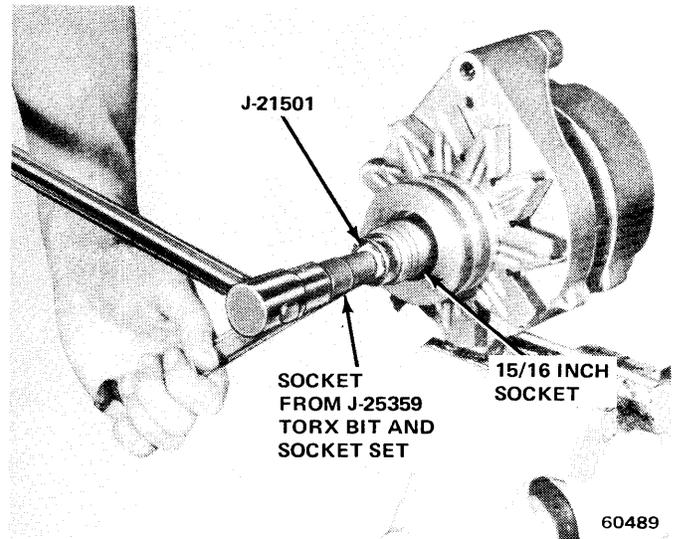
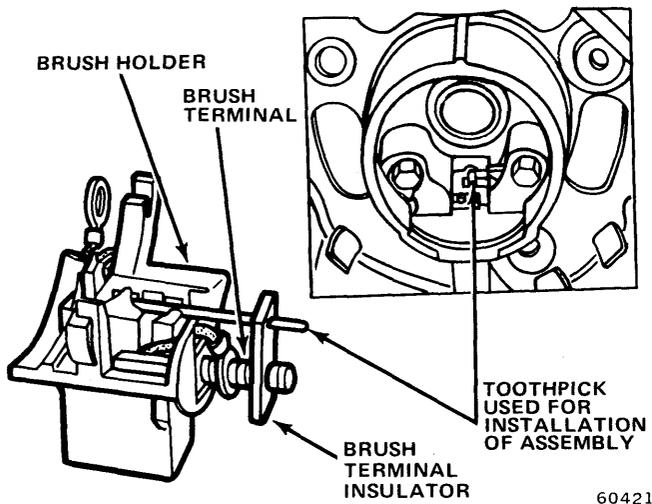

Fig. 3-19 Pulley Removal and Installation
Fig. 3-20 Brush Holder Assembly Installation
(10) Separate rectifier assembly from stator.
(11) Clamp front housing in vise and remove drive pulley nut using Tool J-21501 (fig. 3-19).
(12) Remove lockwasher, pulley, fan, fan spacer, front housing, and front bearing spacer from rotor shaft.
(13) Remove front end bearing retainer screws and remove retainer. If bearing is damaged or has lost its lubricant, support housing close to bearing boss and press out bearing.
(14) Test stator, rectifier, and rotor.
(1) Press front bearing in front housing bearing boss. Put pressure on outer race only. Install bearing retainer. If stop ring on rotor drive shaft was damaged, install replacement stop ring. Push replacement ring on shaft and into groove. Do not open ring with a snap ring pliers as permanent damage will result.
(2) Position front bearing spacer on drive shaft with recessed side against stop ring.
(3) Position front housing, fan spacer, fan, pulley and lockwasher on rotor shaft. Install drive pulley nut.
(4) Clamp front housing in vise and tighten drive pulley nut to 60 to 100 foot-pounds torque (fig. 3-19).
(5) If rear housing bearing was removed, support housing near bearing boss and press in replacement bearing flush with outer housing.
(6) Place brush springs, brushes, brush terminal and terminal insulator in brush holder and hold brushes in position by inserting a wooden or plastic toothpick in brush holder (fig. 3-20).